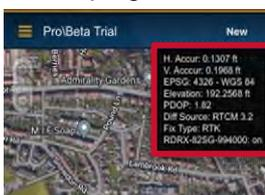

Figure 1a.
- Ensure the locator has access to GNSS satellites (see figure 1a and 1b).